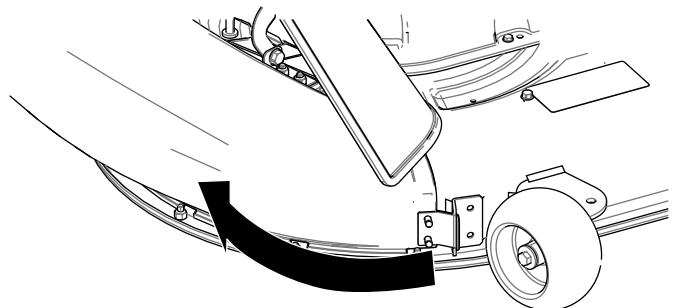

Figure 21
2. Pivot the chute back and toward the deck so that the chute aligns with the mower deck (Figure 21).